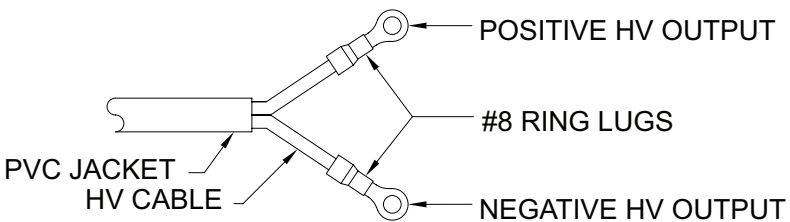

FIGURE 4
4. Insert and firmly crimp the #8 ring lug supplied with the HL Junction Block onto each of the four cables as shown on **Figure 4** using Panduit tool CT-1550 or equivalent. For a superior connection, consider soldering lugs to conductors.